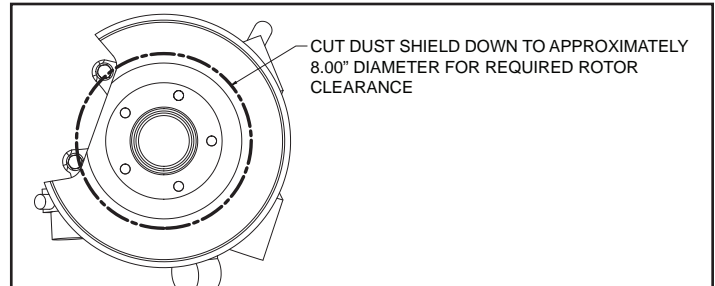

Figure 3. Dust Shield Modifications (Left side shown)
•The rear dust shield needs to be modified (cut), as shown by the dotted line in Figure 3 to clear the new Wilwood rotor. Cut on the dotted line approximately 8.00" diameter from the center of the axle hub. **NOTE:** It is recommended that the dust shield be removed before modification, and the modification be performed by a qualified machine shop.